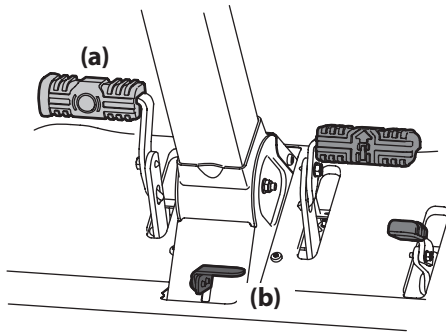

Figure 3-2
2. Engage the parking brake by pressing forward on the brake pedal (a), then press down on the parking brake/cruise control lever (b) and then release the brake pedal (a). Refer to Figure 3-2.